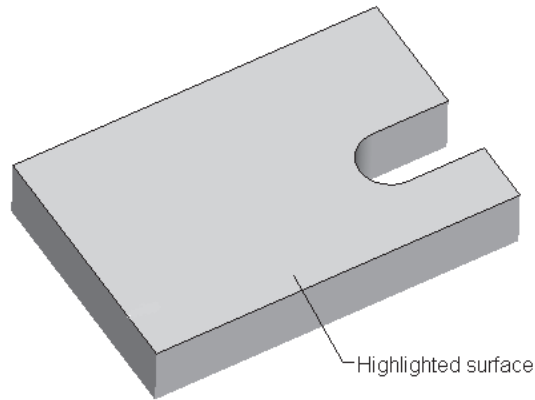

Figure 5-77 Surface selected to be at the top
6. Select the top face of the base feature shown in Figure 5-77 and choose the **Top** option from the **Orientation** drop-down list.